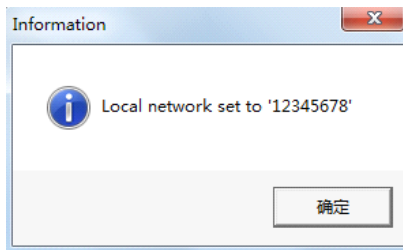

Figure 19 Network name setting success
- Step 4** Click **Set Local Device Only**. When the page as shown in **Figure 19** is displayed, the setting succeeds. Now Device C has been removed from its logical network.